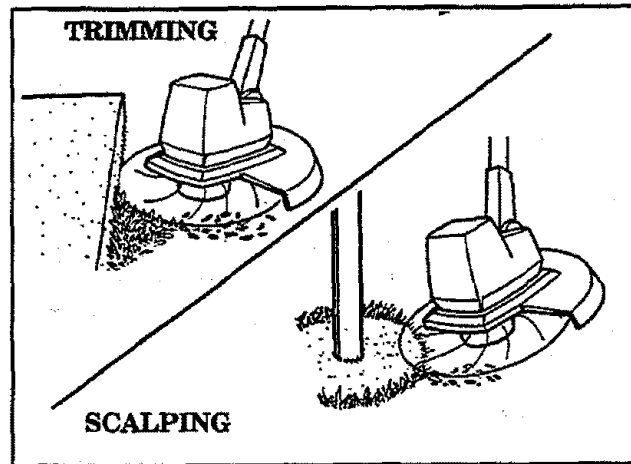

Figure 10
1. **TRIMMING** - Figure 10. Hold the bottom of the trimmer head about 3 inches above the ground and at an angle. Allow only the tip of the line to make contact. Do not force the trimmer line into the work area.
2. **SCALPING** - Figure 10. The scalping technique removes unwanted vegetation. Hold the bottom of the trimmer head about 3 inches above the ground and at an angle. Allow the tip of the line to strike the ground around trees, posts, monuments, etc. *This technique increases line wear.*